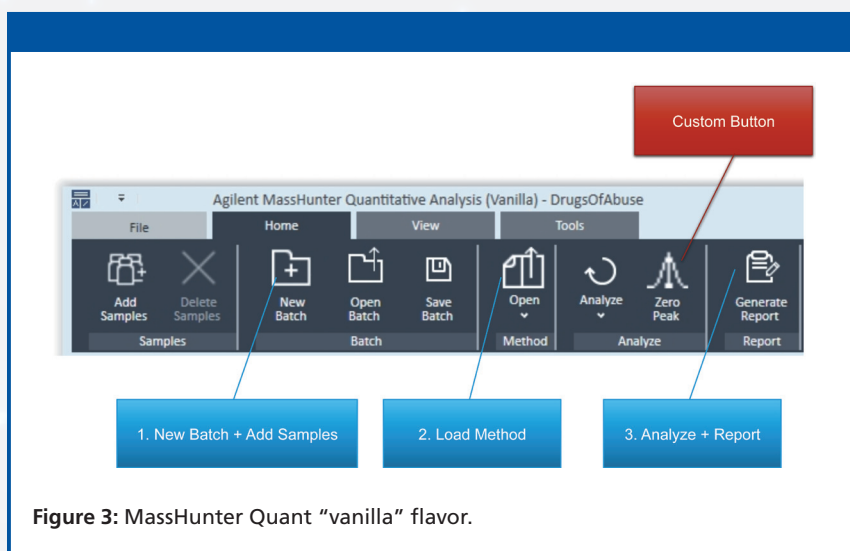

Figure 3: MassHunter Quant “vanilla” flavor.
**Figure 3** shows the vanilla flavor of MassHunter Quant-My-Way. Note its simplicity: add samples, create a batch, load the method, analyze the samples, and generate a report. This new software feature significantly reduces the time spent setting up a run.